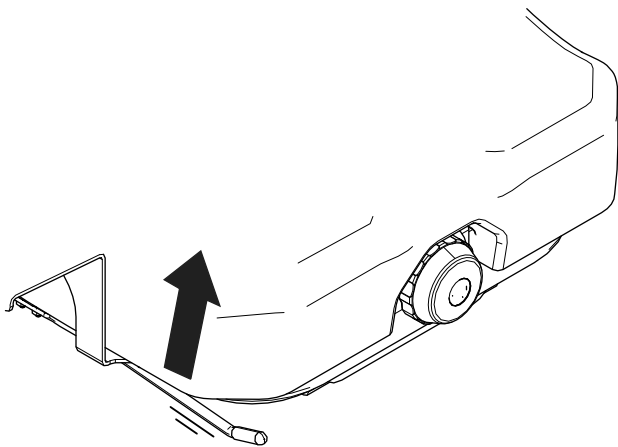

Figure 6
- **Model No. 31981 and 31982:** Lift the locking lever to release the seat (Figure 6), move the seat to a comfortable position, and release the locking lever to secure the position of the seat.